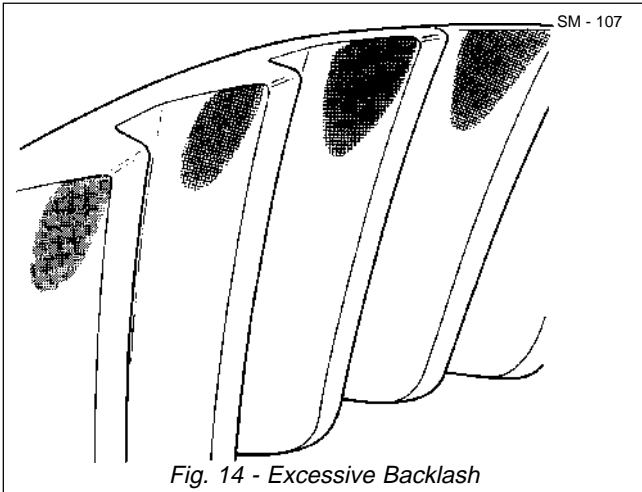

Fig. 14 - Excessive Backlash
c. If the contact area is on the outer part of the ring gear teeth, see Fig. 14, move ring gear toward pinion by turning bearing adjuster.